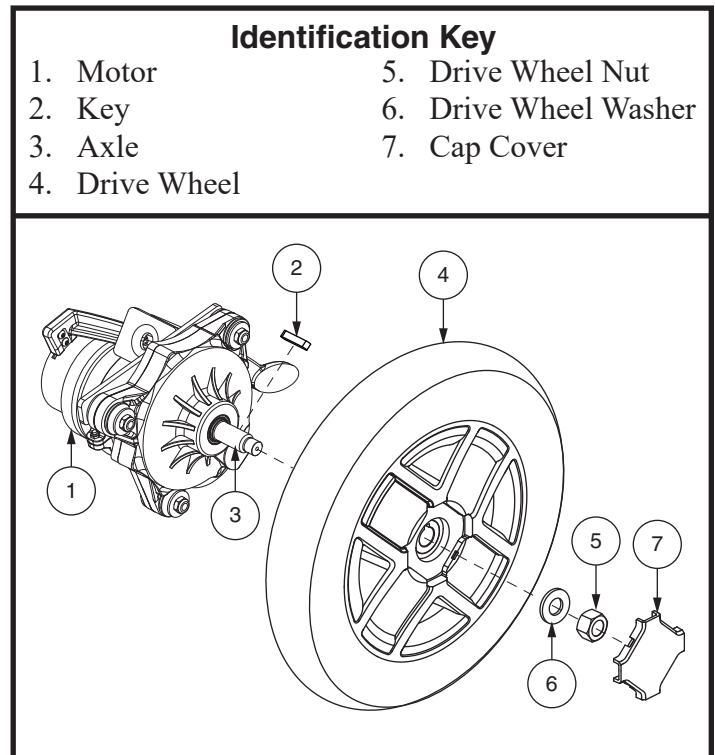

Figure 18. Drive Wheel Removal
6. Remove the drive wheel nut and washer from the axle. See figure 18.